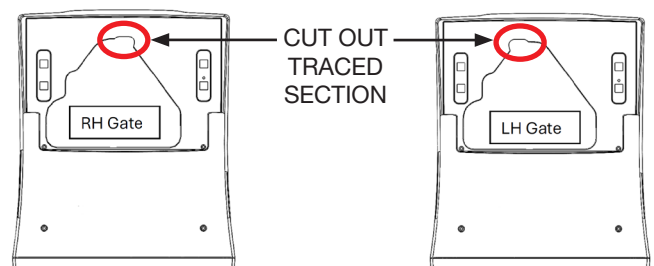

Figure 22. Cutout for Target Sensor
5. Using a Dremel tool or grinder, cut out only the traced section of the cover to give clearance for the target sensor (Figure 22).